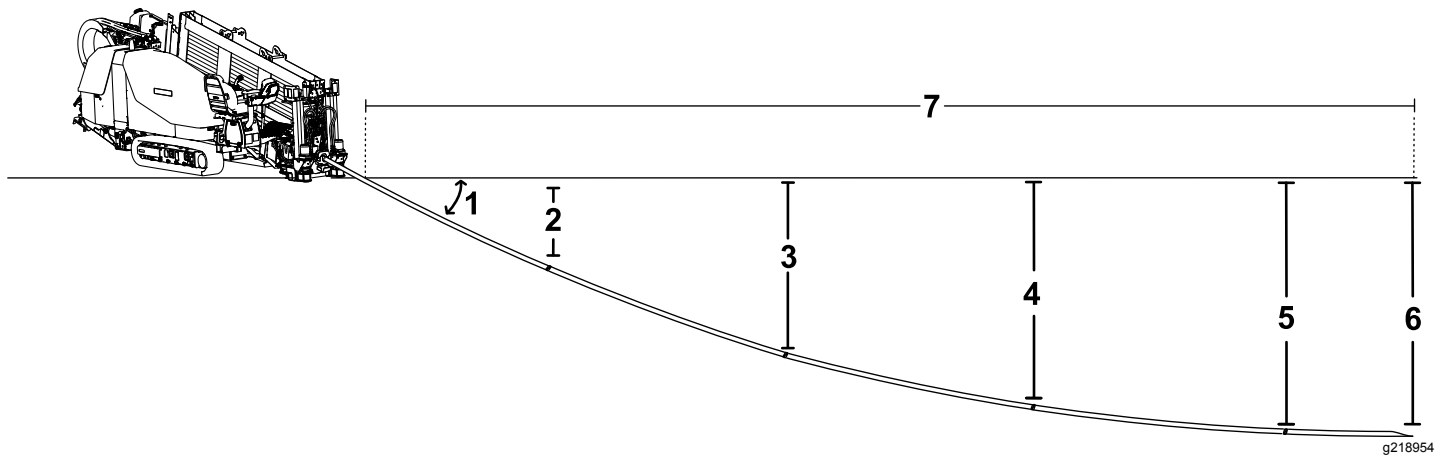

Figure 44
- You insert the first 3 m (10 ft) of drill bit/pipe into the ground with no steering. The end of the drill bit is 76 cm (30 inches) deep (Figure 44).